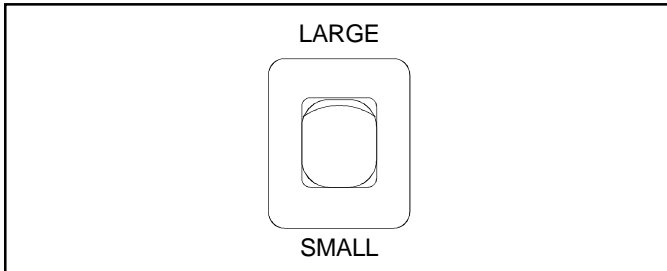

Figure 8
1. Depress *Element Size* switch downward. Dual Element switch is located in upper right corner of control panel. (Figure 8)